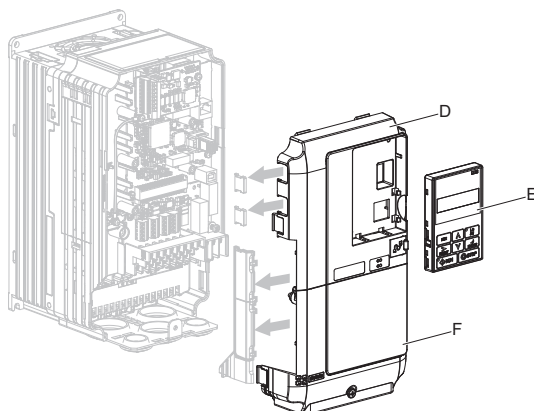

Figure 8 Replace the Front Covers and Digital Operator
- Wire the motor PG encoder to the terminal block on the option. Refer to Figure 8 for wiring instructions. Refer to Option Terminal Functions on page 21 for a detailed description of the option board terminal functions.